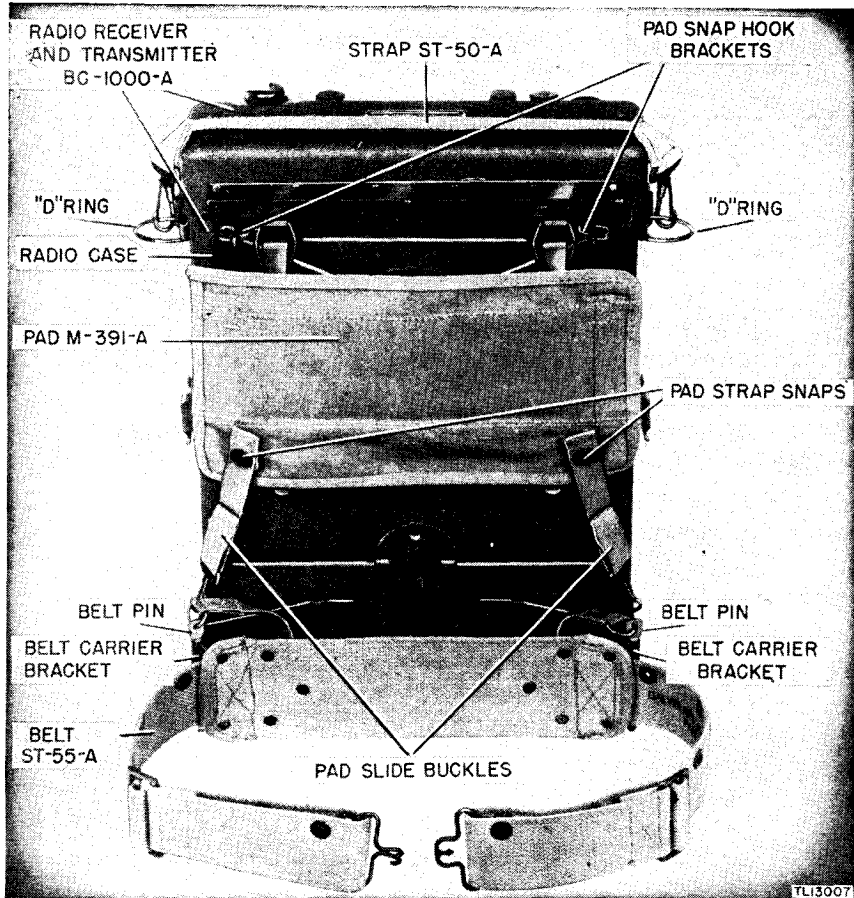

Figure 12. Radio Set SCR-300-A, assembly of Pad M-391-A, Belt ST-55-A, and Strap ST-50-A—rear view.
a. PAD M-391-A. This pad has four snap hooks which hold the pad in place on the radio set. Connect the top snap hooks to the pad snap hook brackets near the top of the radio case. Connect the bottom snap hooks on the adjustable straps to the holes nearest the case on the belt carrier bracket. (See fig. 12.) Adjust the slide buckles on the lower straps after installation, so that the pad lies flat against the back of the set housing.
b. **BELT ST-55-A.** This belt is equipped with two pins permanently attached by short straps. Fasten the belt to the hook brackets with these pins, so that the reinforced eyelet holes are on top. (See fig. 12.)